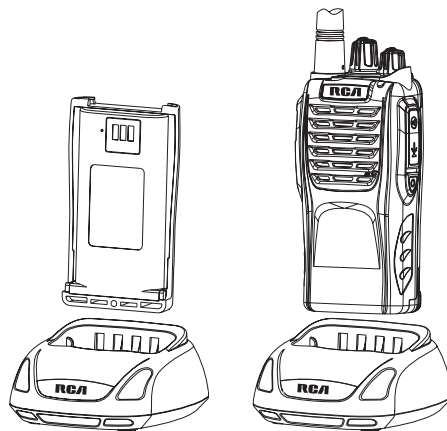

Figure 3
3. Place the radio with the battery attached, or the battery alone, in the charger. (See Figure 3 on page 7.)